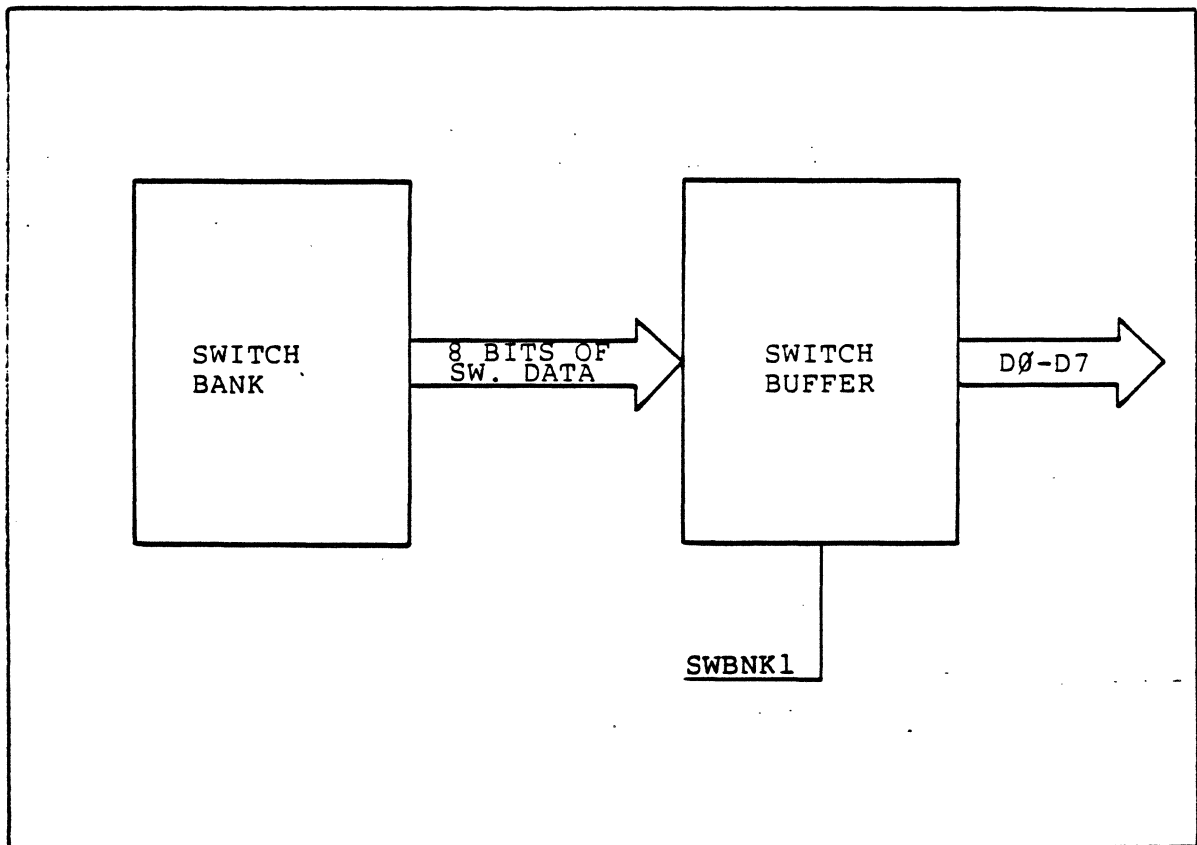

Figure 6-11. System Configuration Switches
6.3.6 System Configuration Switches (Figure 6-11;